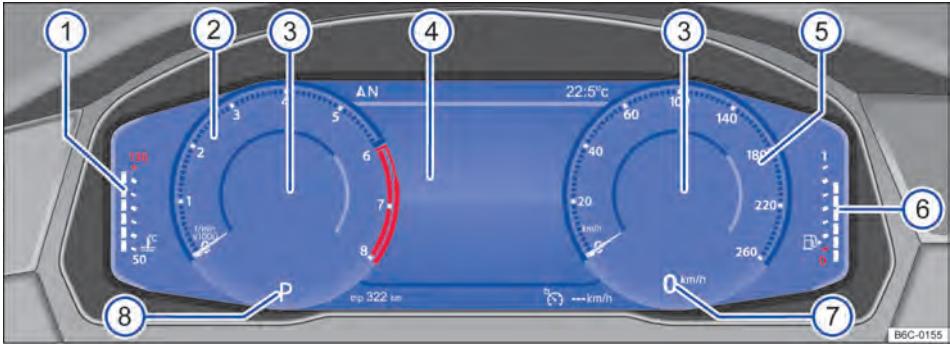

Fig. 11 Active Info Display (version 1) on the dash panel.
Explanations to the instruments → Fig. 11:
According to the radio version and the selected information profile, additional information is shown at the centre of the round instruments → Fig. 11 ③ of the Active Info Display.